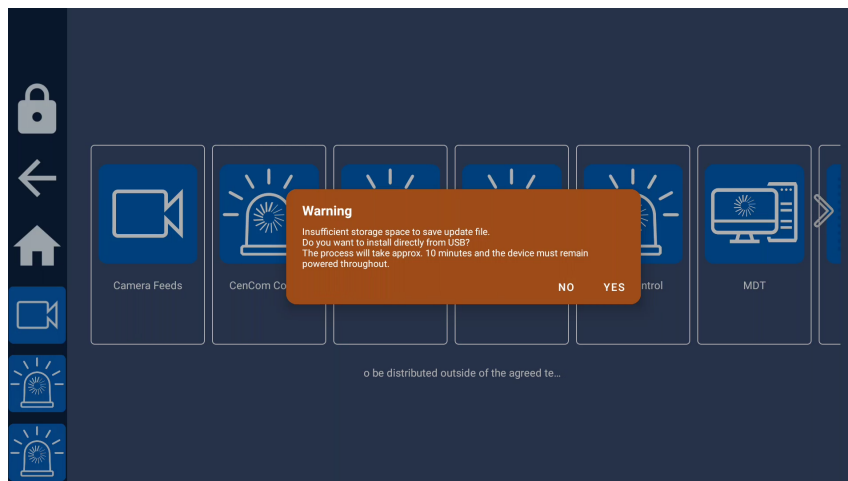
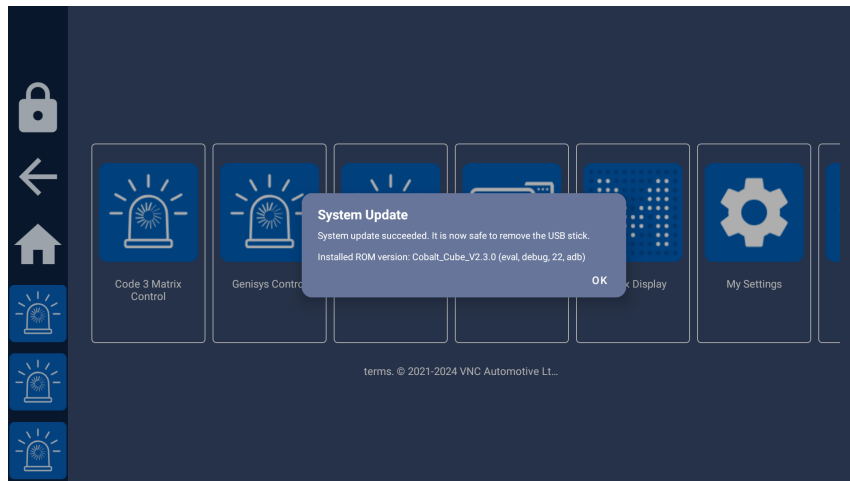

Figure 5: Not enough space warning
Figure 9: “Update successful” dialog
In some cases it will not be possible to save the update file to internal storage due to insufficient space being available. In these cases you will see a dialog as in Figure 5. In this case you **must not** remove the USB stick from the Cobalt Cube until the update process has completed and the Cobalt Cube display is visible on your vehicle screen again.
4. The Cobalt Cube will install the update, and automatically reboot in the process. This may take a few minutes - do not power off the Cobalt Cube until the process is completed. If installing directly from the USB stick (see Figure 5) do not remove this from the Cobalt Cube.
The Cobalt Cube will automatically display a dialog notifying of the successful update after it has been rebooted. If installing directly from the USB stick (see Figure 5) the user will be prompted to say when it is safe to remove the USB stick (see Figure 9).